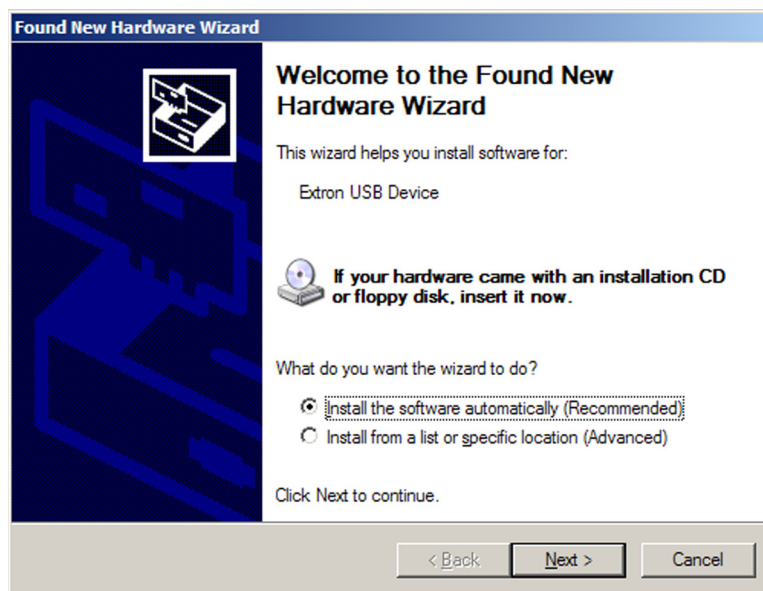

Figure 6. Installing the Software Automatically
3. Click **Next**. The next screen of the Wizard opens (see figure 6):
4. Select **Install the software automatically (Recommended)** and click **Next** (see figure 6).